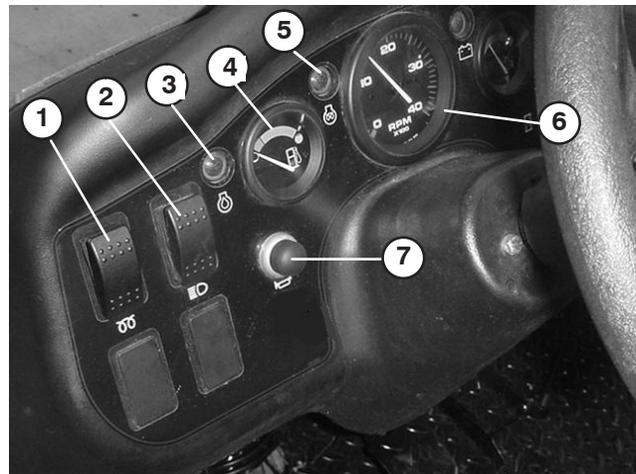

Figure 25
Use to preheat engine cylinders prior to cold engine starting procedures. For cold starting, push rocker switch and hold while watching indicator (Fig. 25). Indicator will glow red when the glow plugs are activated. Length of time necessary to preheat cylinders should be determined by ambient temperature; refer to Starting /Stopping Engine.
Toggle switch (Fig. 25) to activate headlights. Push to turn lights “ON”.
Light glows (Fig. 25) if engine oil pressure drops below a safe level while engine is running. If light flickers or remains ON, stop vehicle, turn off engine and check oil level. If oil level was low, but adding oil does not cause light to go out when engine is restarted, turn engine off immediately and contact your local TORO distributor for assistance.
Shows amount of fuel in tank. Operates only when ignition switch is in “ON” position (Fig. 25).
Pressing button activates horn (Fig. 25).
Optional (Fig. 25).
6. When temperature is below 15 degrees C (60 degrees F), push glow plug rocker switch (Fig. 25) and hold for suggested interval.